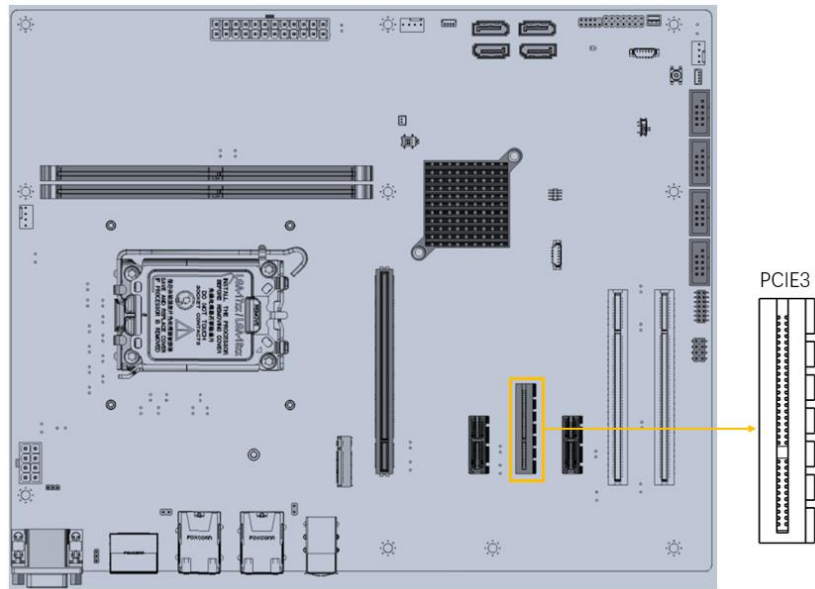

Figure 3-30: PCIe x4 Slot Locations
- CN Location:** See **Figure 3-30**